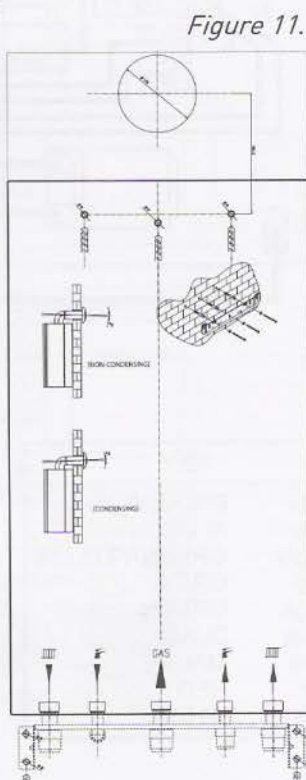
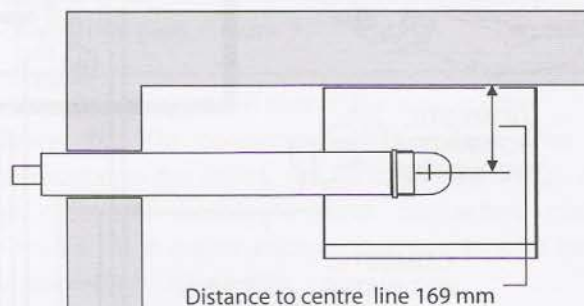

Figure 11.
Figure 12
10.3 Position the supplied template on the wall, ensuring it is level both vertically and horizontally (*figure 11*). Mark the boiler fixing jig (if required), wall bracket fixing positions and flue outlet position (rear flue only). For flue side exit from the boiler - Mark the horizontal flue centre line on the rear wall. Extend the horizontal line to the side wall allowing a 3° decline back towards the boiler, to enable condensate to drain back through the boiler. Mark the flue centre vertical line. (*figure 12*)